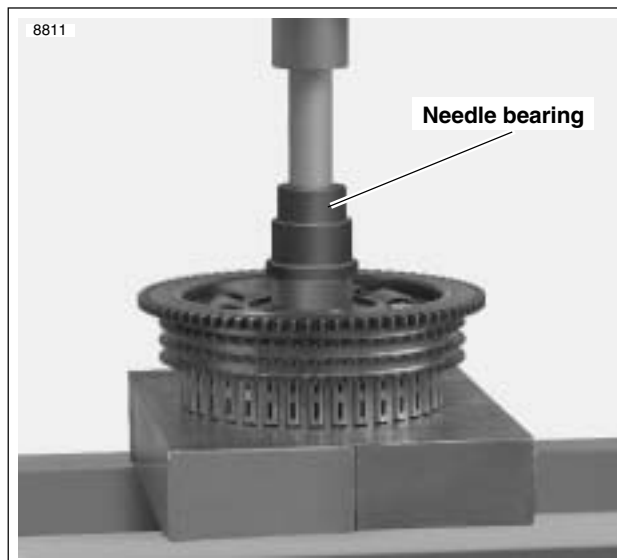

Figure 6-29. Installing Clutch Shell Needle Bearing Clutch Shell Bearing Remover/Installer B-45926
3. See Figure 6-29. Place clutch shell on support blocks with sprocket side facing up.